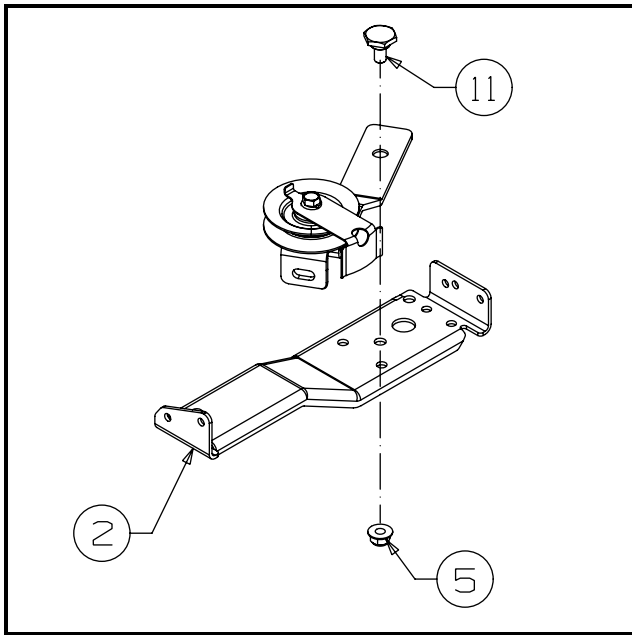

FIGURE 7
13. Assemble the new Idler Bracket, Item 1, subassembly onto the new Torque Bracket, Item 2, using the new Shoulder Screw, Item 11, and Flange Lock Nut, Item 5, as shown in Figure 7.